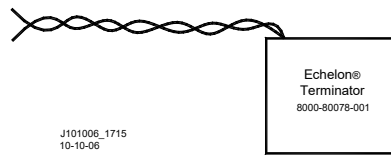

Figure 29: Siemens Echelon Terminator
- In general, Echelon network requires a terminator for proper data transmission performance be connected at each end of the daisy chained bus configuration (see Figure 29).